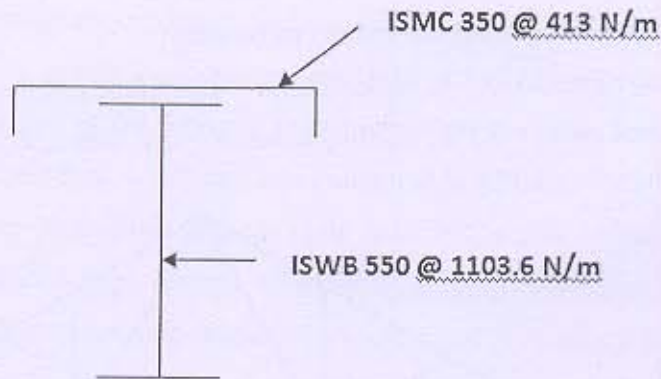

Figure: 2
- (b) A gantry girder section is shown in **Figure 2**. The girder is subjected to following moments: [09]